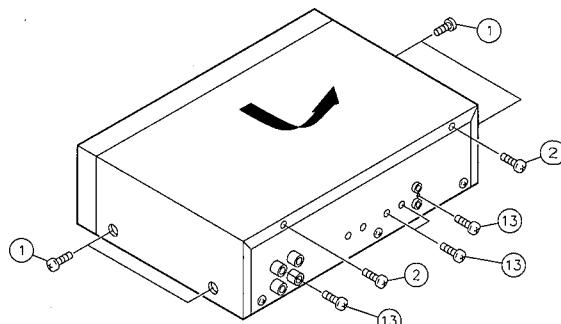

Fig. 2 - 1
1. Remove four screws ① retaining the top cover from both side.
2. Remove two screws ② retaining the top cover from the back side.
3. To remove the top cover ,slide in direction of arrow and lift away (refer to Fig. 2 - 1).
#### ◆ Front panel assembly (Fig. 2 - 2)